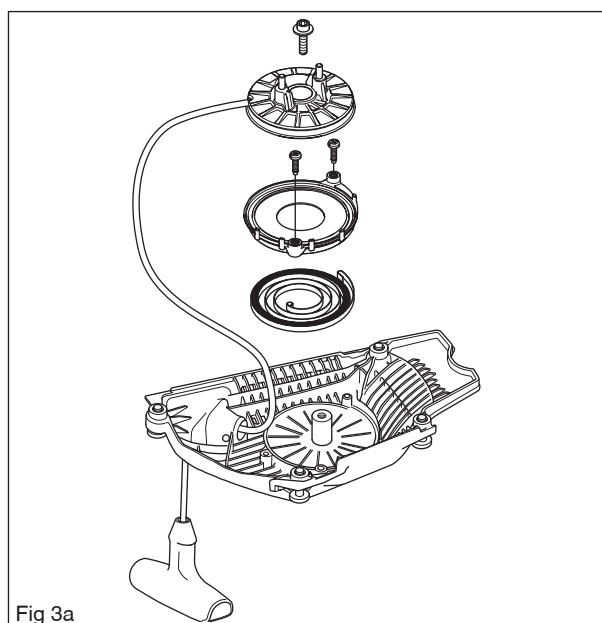

Fig 3a
3. Loosen the screw in the centre of the pulley and remove the pulley. See figure 3a. Loosen the screws on the cassette and remove the cassette and spring.
2. Loosen the screw in the centre of the pulley and remove the pulley. See figure 3a.